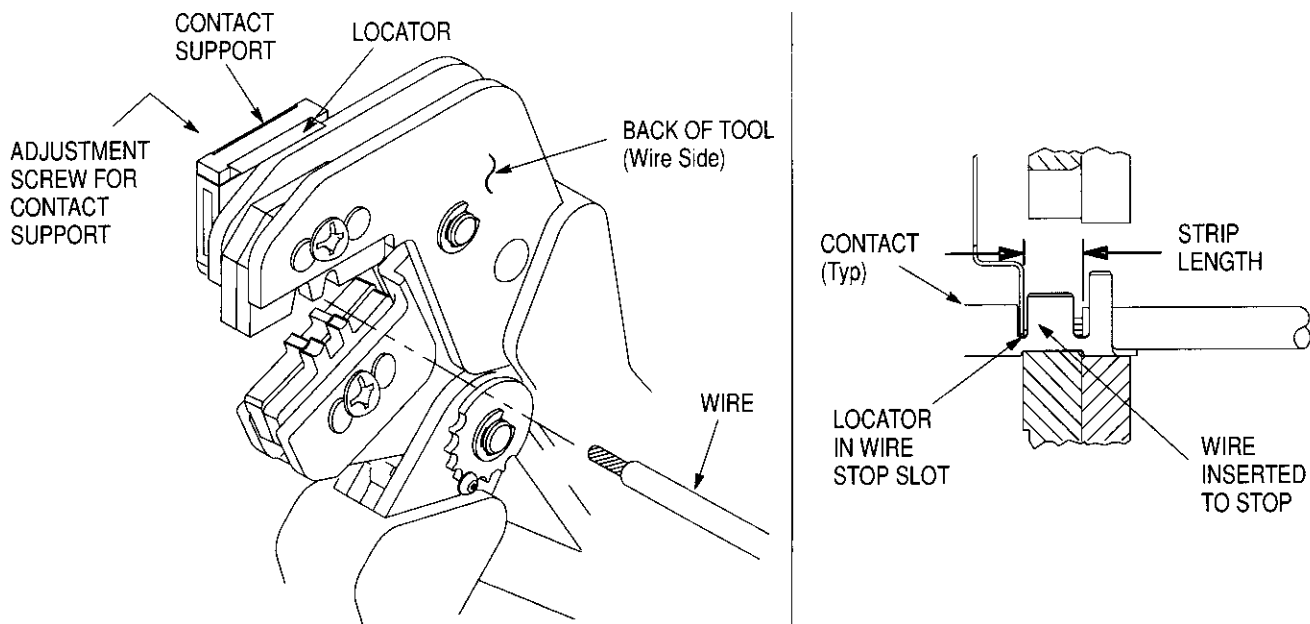

Figure 3
#### 4. CONTACT SUPPORT ADJUSTMENT (Figure 3)
Refer to the table in Figure 1 and select wire of the specified size and insulation diameter. Strip the wire to the length indicated in Figure 1, taking care not to nick or cut wire strands. Select an applicable contact and identify the appropriate crimp section according to the wire size markings on the tool. Refer to Figure 3 and proceed as follows:
3. Position the contact so that the mating end of the contact is on the locator side of the tool, and so that the open "U" of the wire and insulation barrels face the top of the tool. Place the contact up into the nest so that the movable locator drops into the slot in the contact. Refer to Figure 3. Butt the front end of the wire barrel against the movable locator.
5. Insert stripped wire into contact insulation and wire barrels until it is butted against the wire stop, as shown in Figure 3.
*The crimped contact may stick in the crimping area, but the contact can be easily removed by pushing downward on the top of the locator (see Figure 3).*